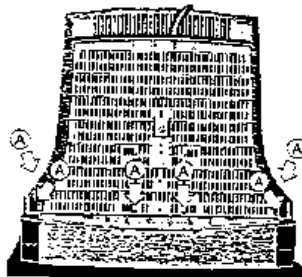

Figure 2-2 Remove the Rear Cover
3. Remove the six screws at the rear of the display. Refer to the figure 2-2 (A).